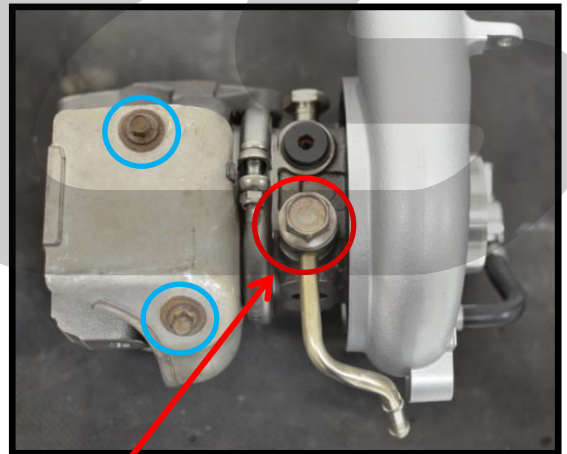

Figure 10a
- a) Remove the 17mm banjo bolt & lower coolant hard line from the OEM turbocharger, shown with the **red circle** in **Figure 10a**. Install this line on the CS turbocharger with the two new provided M14 copper crush washers. **Torque to 20 ft-lb.**
- b) Remove the two 8mm bolts holding the turbine heat shield, **circled in blue** in **Figure 10a**. Install the heat shield on the CS turbocharger. **Torque to 10 ft-lbs.**